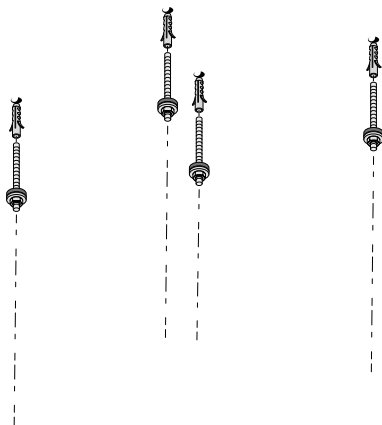

Fig. 2
2. Insert the chosen plugs in the holes (fig. 2).